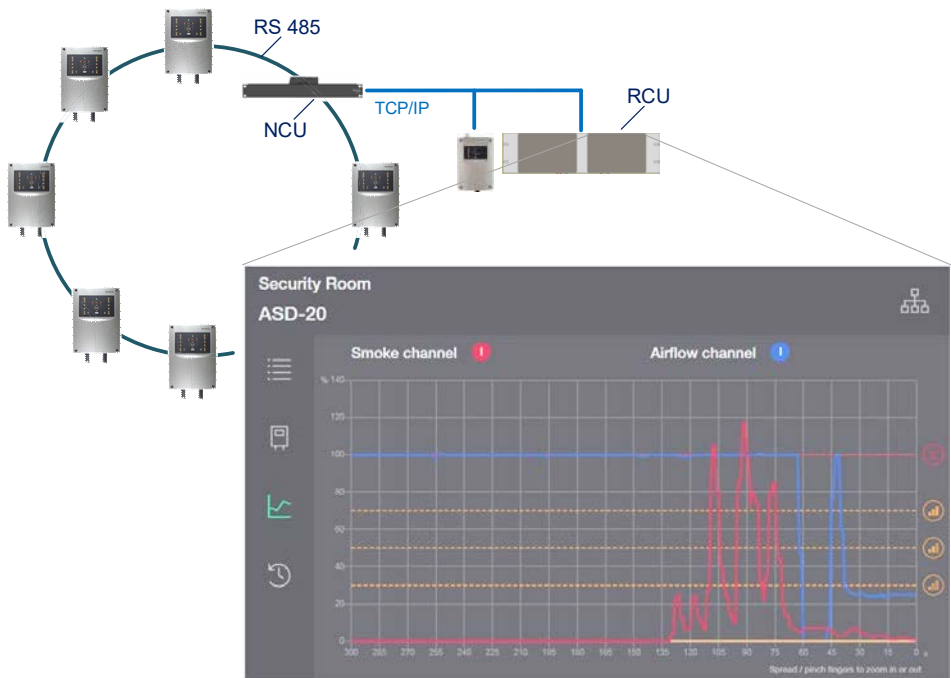

Figure 21 Rack-mount standalone FidesNet RCU display and control
Figure 21 illustrates the RCU and NCU for display, control and management of networked SecuriSmoke ASD detectors remotely from the protected areas. Key features include:
- Trending: display the measurement values of the airflow and smoke value in graphic charts with both real-time values and recorded values²¹, against the pre-determined alerts and alarm thresholds (see Figure 21)